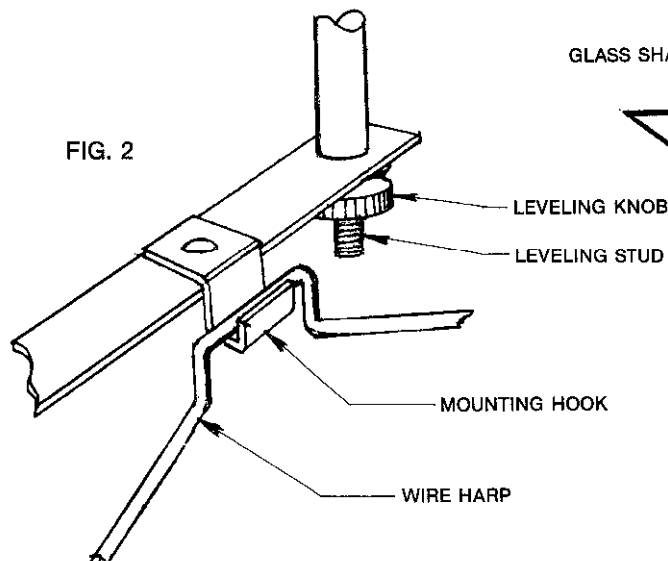

FIG. 2
5. Attach **GLASS SHADE** by looping **WIRE HARPS** carefully over **MOUNTING HOOKS** (Fig. 2).
6. Check to make sure **GLASS SHADE** is level. **GLASS SHADE** may be leveled by turning one or more of the **LEVELING KNOBS** on the **LEVELING STUDS**. **NOTE:** Be careful not to unthread **LEVELING KNOB** from **LEVELING STUD** (Fig. 2).